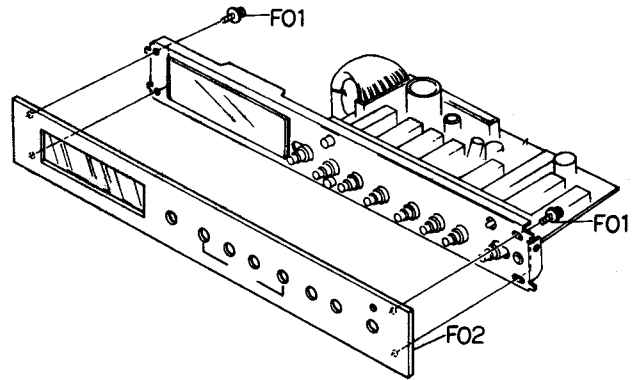

Fig. 3.2
Refer to Fig. 3.2. Remove Top Cover and Front Mechanism Ass'y referring to item 3.1. Remove F01, then F02 (Front Panel Ass'y).